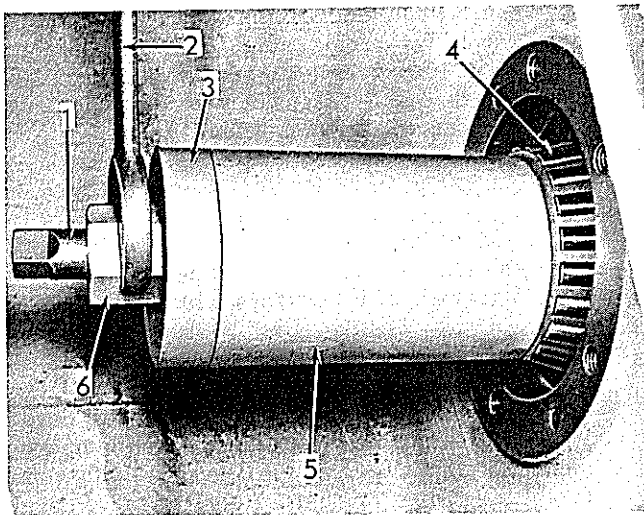

Fig. 16 Installing Bevel Gear Shaft Bearing Cone
O.D. of bearing toward bevel gear. Refer to Fig. 16; install puller screw in end of shaft and place tube against inner race of bearing cone. Install tube end plate, thrust washer, and hex-nut; tighten hex-nut until bearing cone is tight against shoulder on shaft; remove tools.